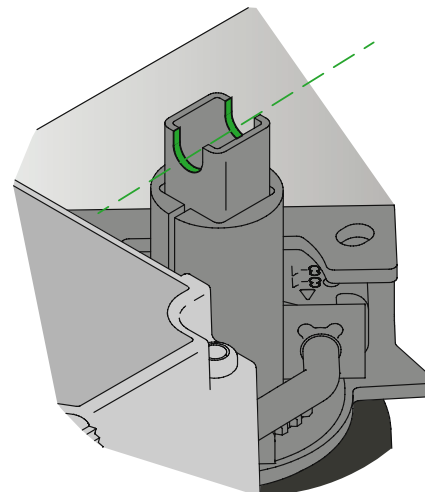

Figure 13. Recess in the damper spindle indicates the position of the damper.
- Note: Positioning of damper blade and locking strip, see figures 13 and 14.